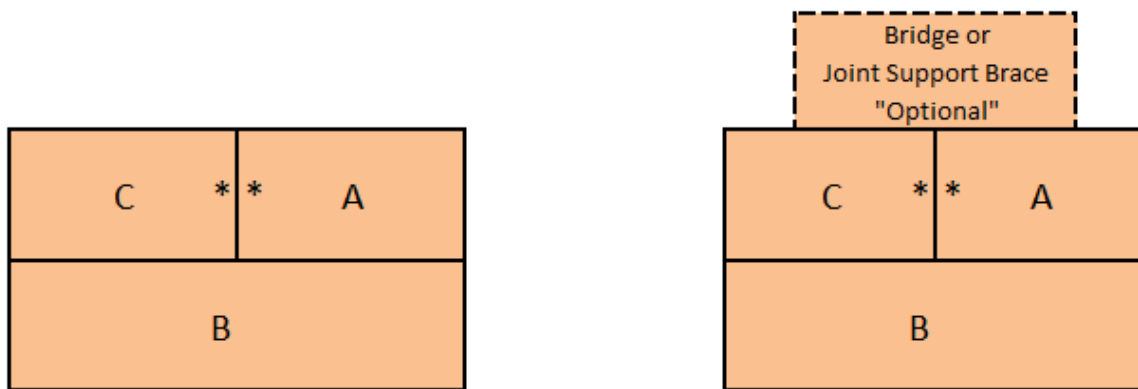

Figure 3 – Assembled Plank Layout
– See Figure 3 Note: review assembly to ensure no visible gaps between the elements. Assembling, testing, viewing and rating should be in a well lighted area with specimens placed on a sturdy, flat bench or table, with good viewing access at typical counter top or table top height.